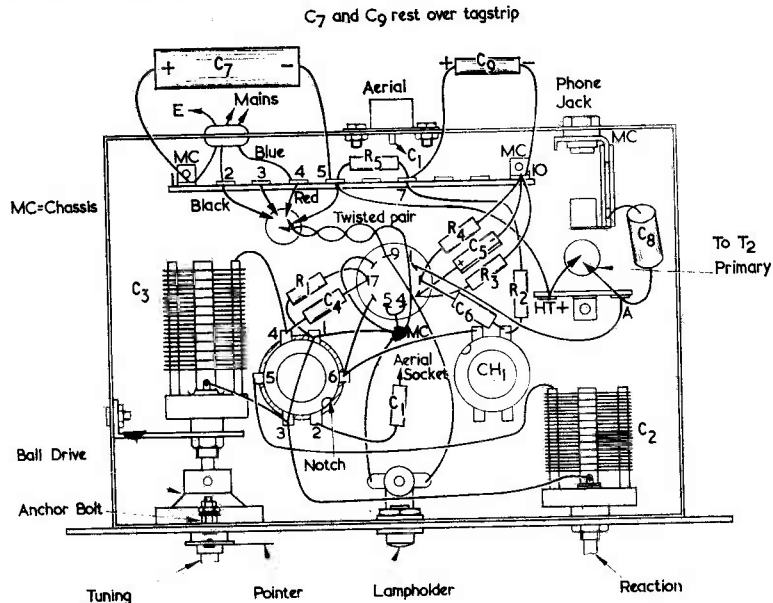

Fig. 3. Below-chassis point-to-point wiring diagram
A ten-way tagstrip is fitted near the rear of the chassis, as in Fig. 3. The outer tags, 1 and 10, are in contact with the chassis, being secured by short bolts. Tag 1 is used for the mains earth lead, and the negative lead-out wire of C_7 . Tag 2 is for mains neutral (black) and the black lead from T_1 primary. Tag 3 anchors the blue lead (200V) whilst the red lead from T_1 (250V) goes to tag 4. The red (L) mains conductor then connects to tag 3 or 4 according to the mains voltage available. Normally, it will connect to tag 4.
Both C_7 and C_9 lie above the tagstrip, but they are shown removed from this position in Fig. 3 so that the wiring may be followed more clearly. C_7 and C_9 should have insulated sleeves, or should be bound with insulating tape, and they are best fitted after the other components.
"A" (for Anode) in Fig. 3. They serve as connecting points for the primary of the speaker transformer T_2 .